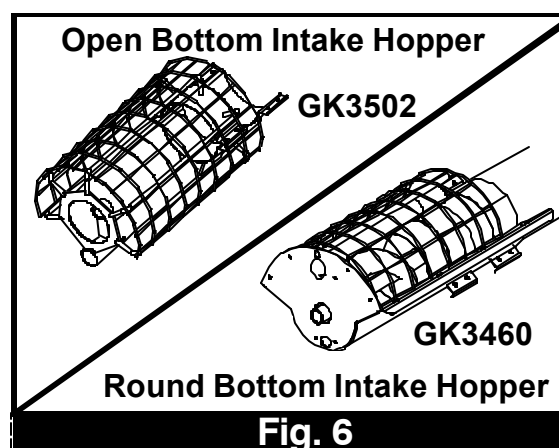

Fig. 6
- A. Attach the intake guard to the auger housing. (See Fig. 6.)